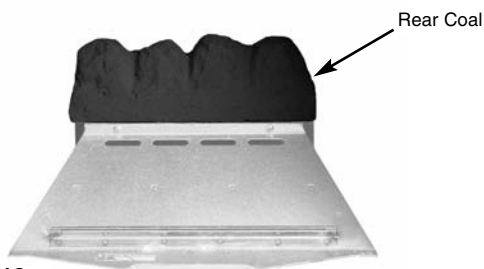

Fig. 13
1. Place the rear coal on the rear ceramic retainer ledge in a central position (Fig. 13).